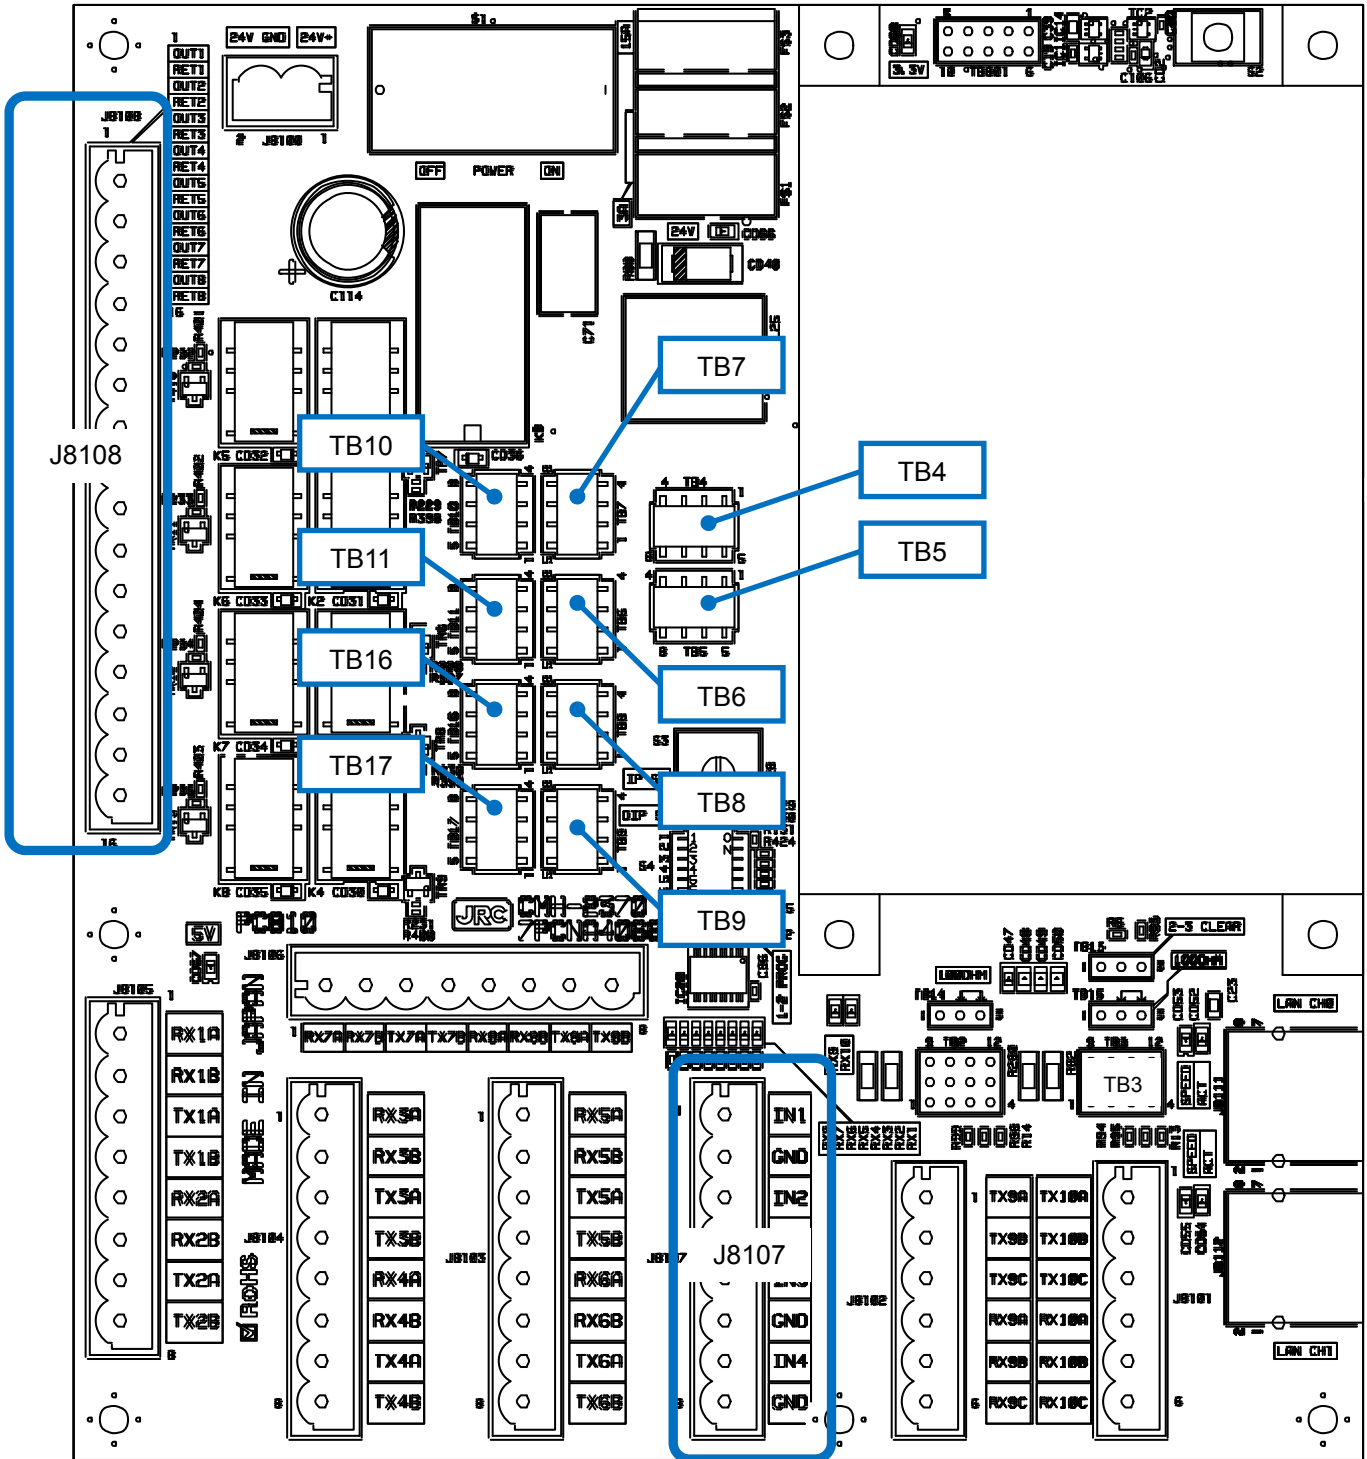

Fig 3-37: Connector and TB location on CMH-2370
- See **Fig 3-37: Connector and TB location on CMH-2370** about location of J8107 on CMH-2370.
- See Fig 3-37: Connector and TB location on CMH-2370 about location of J8108 on CMH-2370.